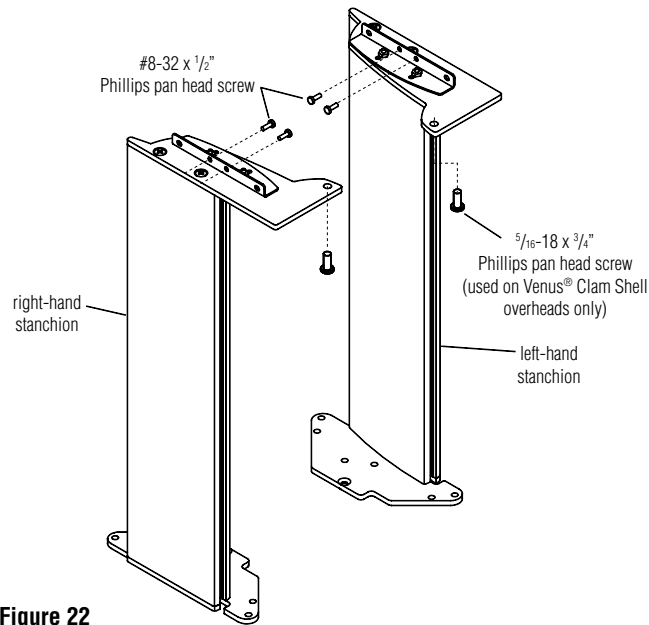

Figure 22
**Note:** The Venus® clam shell style overhead uses an additional 5/16-18 x 3/4" Phillips pan head screw for mounting (one per stanchion) (Figure 22).